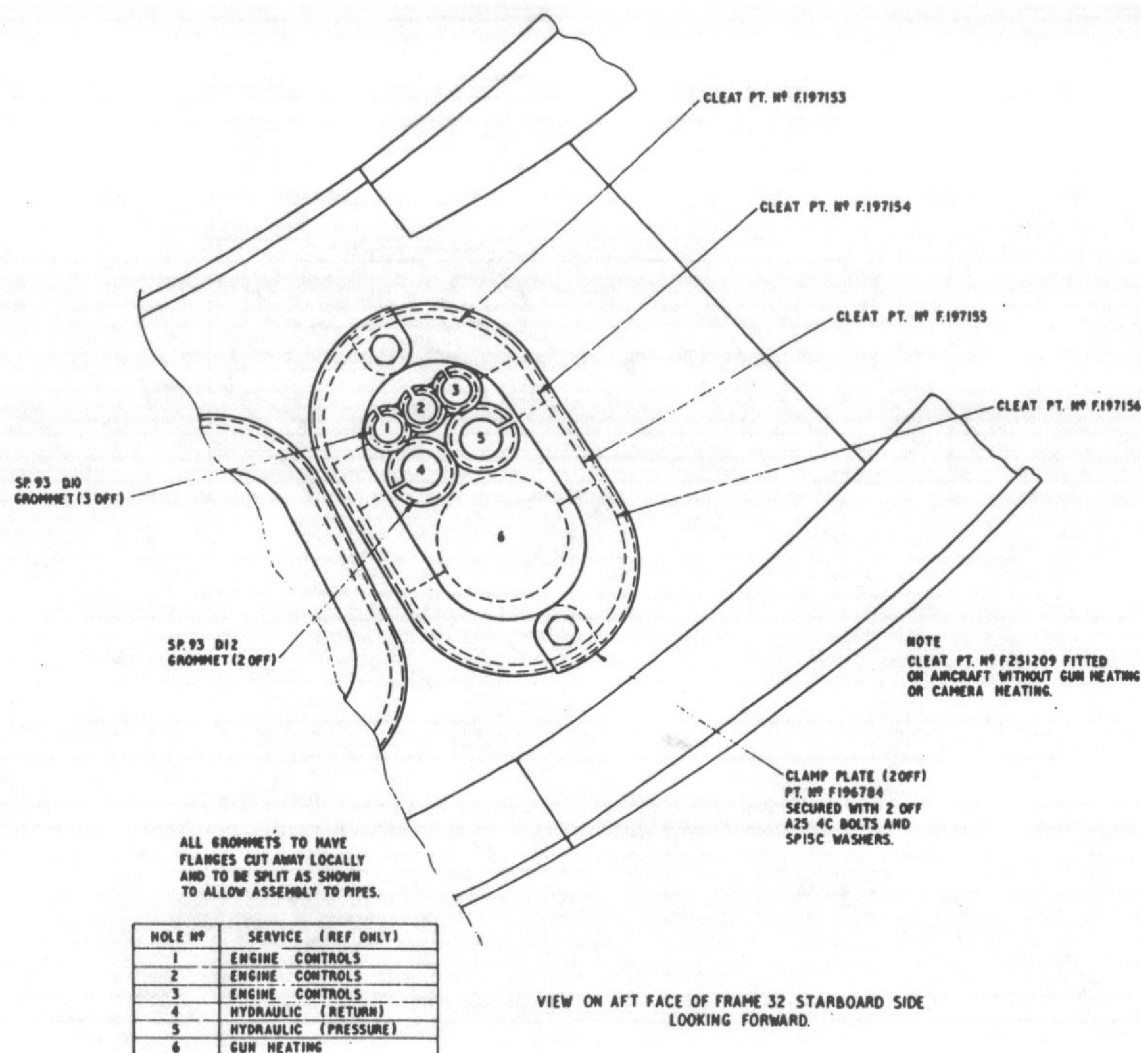

Fig.6A Assembly of clamp plates and cleats frame 32 (STI/Hunter/395)
- (1) If a new engine is being installed as a result of compressor failure, or engine seizure, the pipe lines of the cabin pressurization system and the air pipes of the fuel system, *must* be examined to ensure that they are free from foreign matter.
- (2) Before engine installation, examine the pipes and clamp assembly located at the starboard lower aft face of frame 32 (*fig.6A*) for signs of pipe chafing, possibly caused by deterioration of the grommets or fracture of the pipe cleats. Renew any unserviceable pipes, cracked cleats or deteriorated grommets. Replacement grommets are to be Part No. SP 93, as specified in *fig.6A*, prepared by cutting away the flanges locally and splitting (*as shown*). After reassembling the grommets and cleats, check that adequate clearance exists between the pipes and controls (STI/Hunter/395 refers).
- (3) The accessories gearbox drive shaft universal couplings must be lubricated in accordance with the instructions given in *Accessories gearbox universal drive couplings* in this Chapter before the engine is installed.
- (4) When checking the accessories gearbox drive coupling, hold the spring housing of the engine coupling clear and torque load the drive shaft locknut as specified in AP 103C-0111-16, Sect 4, Chap 1, para 15. Release the spring housing and ensure that the locking sleeve teeth are in positive engagement with those of the coupling nut.